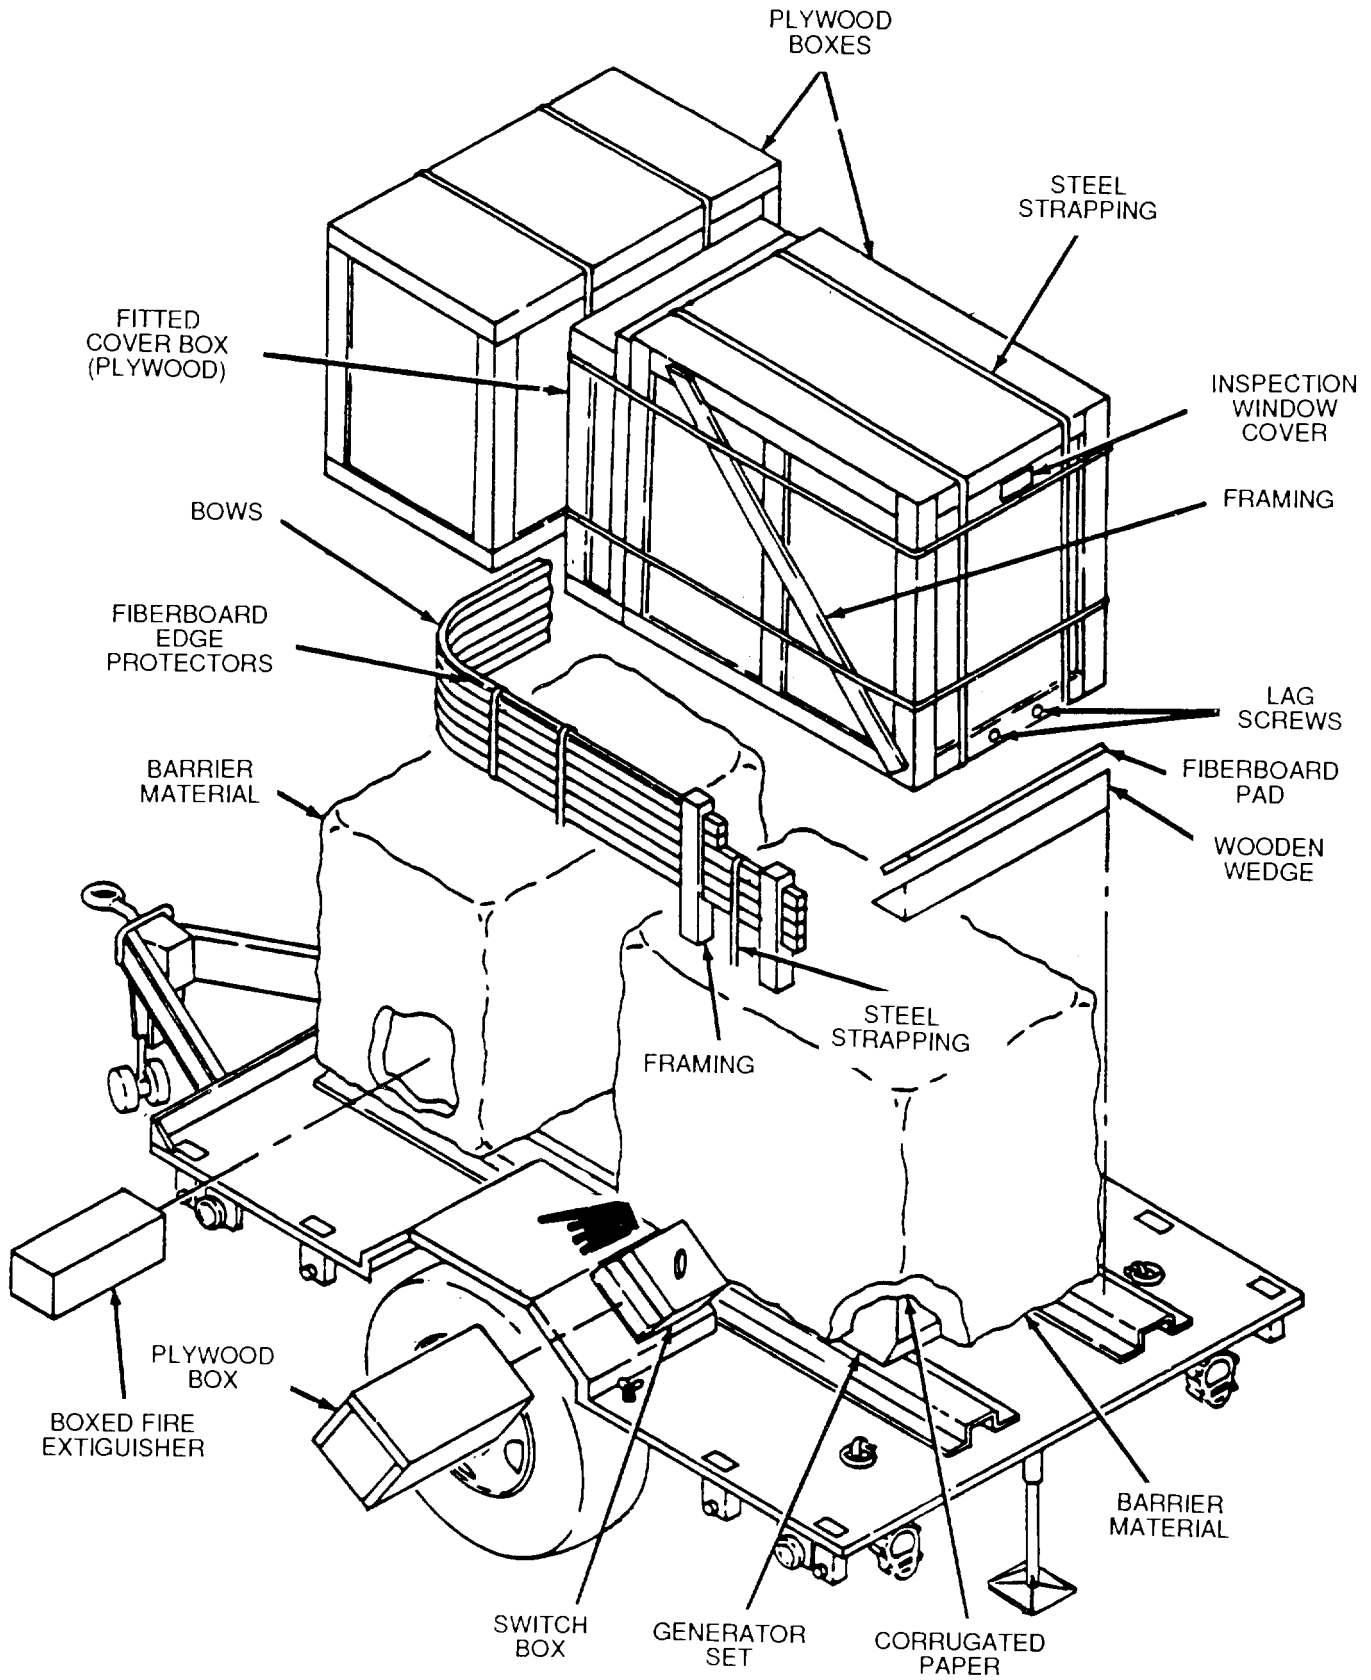

Figure 4-1. Unpacking Power Plant.
a. Unpacking Power Plant. (See figure 4-1.) The generator sets are packed in place on the trailer body. Before beginning the unpacking procedure, locate, remove, and save the two Depreservation Guides.